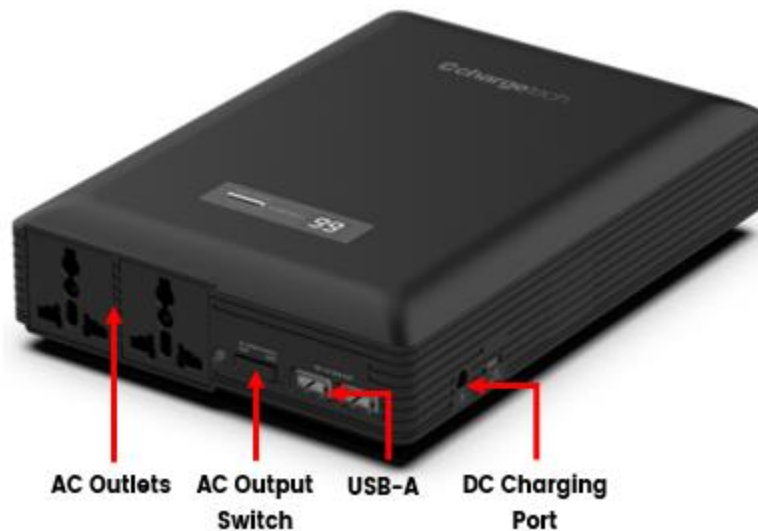

Figure 16: ChargeTech 54K Battery Pack Connections. (Bloodhound G)
- A. For **Bloodhound G**, plug the surge protector into one of the AC outlets on the battery pack, shown in Figures 16 & 17. **Ensure the battery pack is turned OFF.**
- C. Connect the DC charging extension cable to the charging port on the side of the battery pack, shown in Figures 16 & 17.